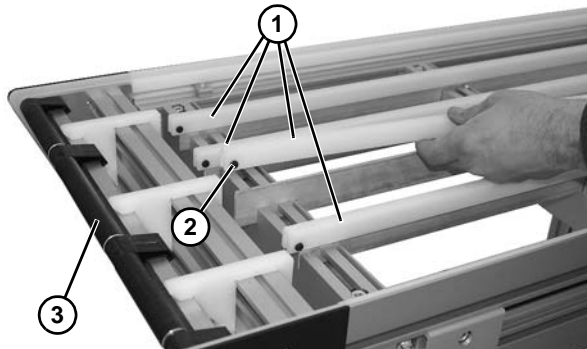

Figure 46
The top clip-on wearstrips (**Figure 46, item 1**) have a screw (**Figure 46, item 2**) on end of wearstrip on idler end (**Figure 46, item 3**) of conveyor so wearstrips do not move too far toward drive end.
1. Install top clip-on wear strips (**Figure 46, item 1**).